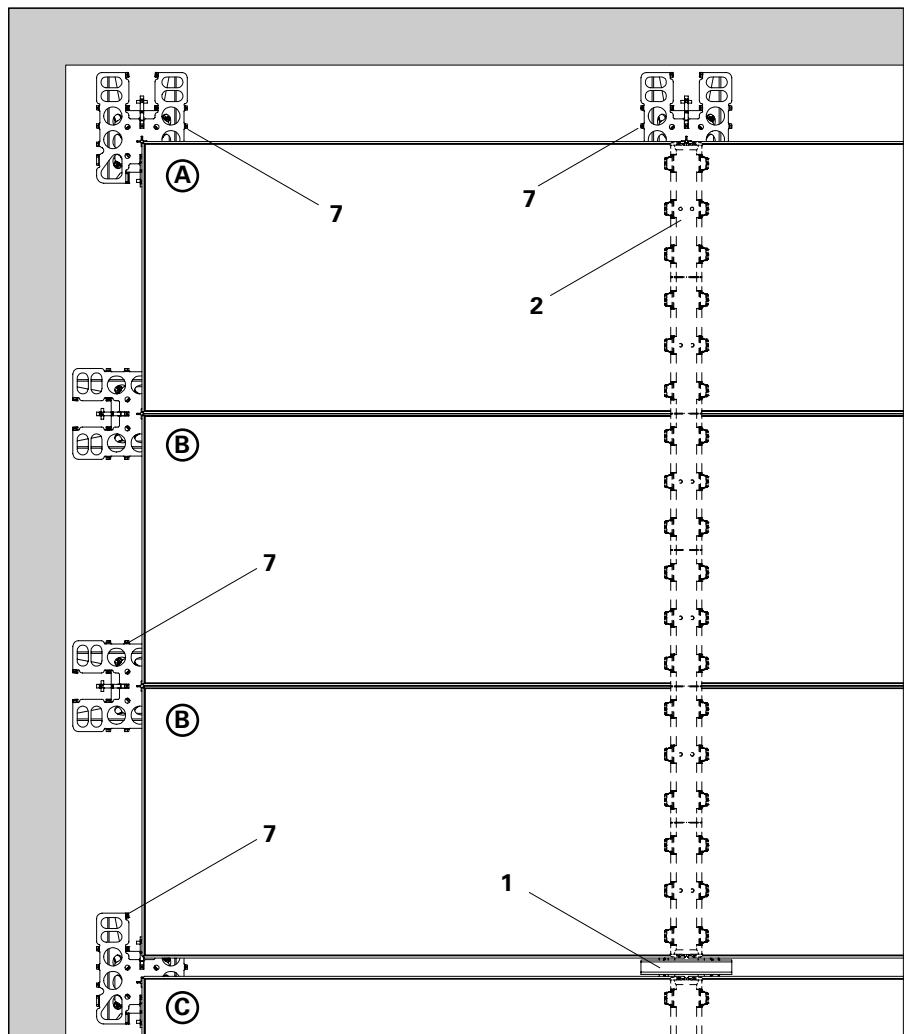

Fig. A5.19
In corners where longitudinal and transverse compensations meet, the Combihead (7) is aligned in the direction of the main beam. (Fig. A5.19 A)
Install the cantilever of the Combihead (7) up to the compensation area. (Fig. A5.19 B)
In the system with the Drophead (1), the Combihead (7) is always installed transversely if it is positioned under a cover strip. As a result, the panels are prevented from slipping out of position. (Fig. A5.19 C)